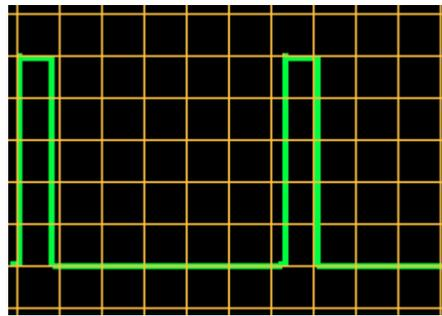

Fig. 3-7 Softfire signal.
3. Press key 5 followed by START.
5. A 5V pp square wave signal should appear (Fig. 3-7). If it does not, proceed to the SOFTFIRE TROUBLESHOOTING FLOWCHART, page 64.
- Format: If error code 30 appears on the Error Summary (Figure 3-7) the OS ROM chip is defective. Replace the defective chip and restart the test.
- Format: The test is done internally with failures appearing on the Error Summary (Figure 3-7).